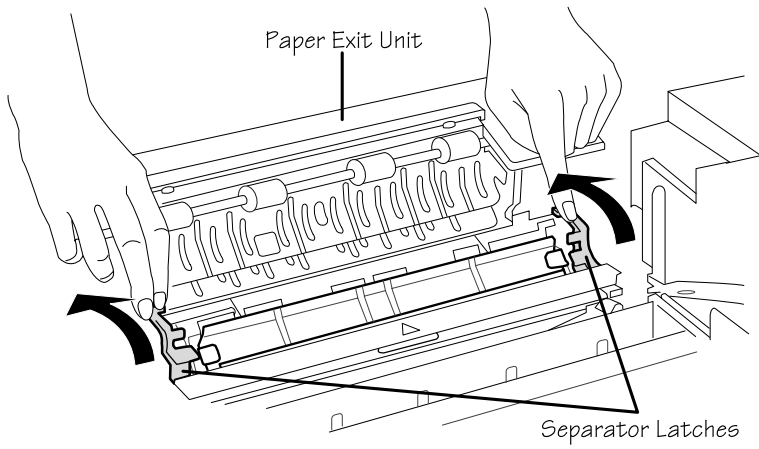

Fig. 2.14 *Open Separator Pawl Unit (front view)*
2. Pull back the two latches (one on each side) of the separator pawl unit to unlock it. Then, tilt the pawl unit back in the direction of paper exit unit at the back of the printer (fig. 2.14).